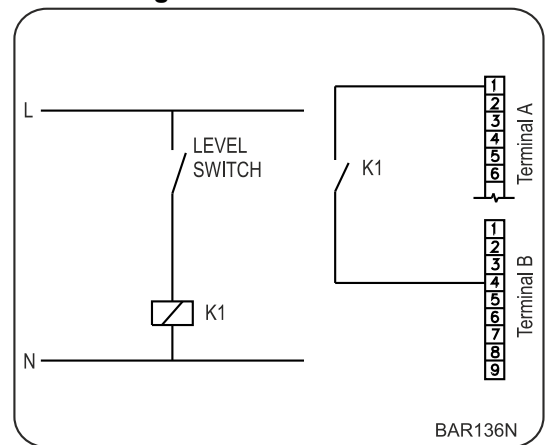

Figure 31
- This option is not obligatory. However, it is advisable to install a level switch. This level switch must be connected to the microprocessor by means of a potential-free contact. Refer to *Figure 31* .